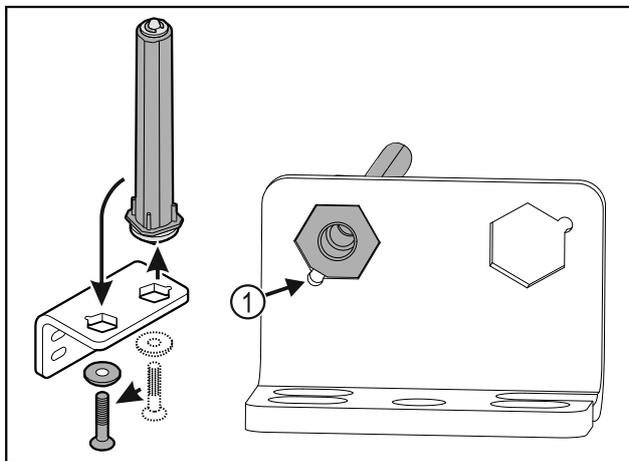

Fig. 29
- ▶ Make sure the pin chamfer Fig. 29 (1) faces the round hole when you put it in.